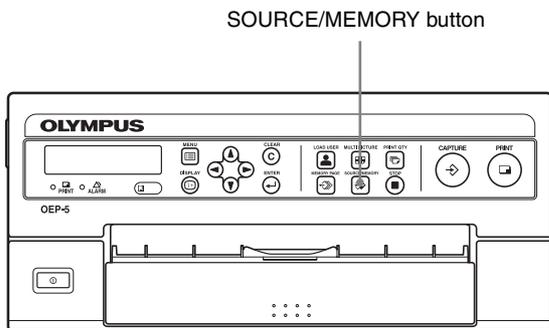

Figure 4.10
- 1 Press the “SOURCE/MEMORY” button (see Figure 4.10).